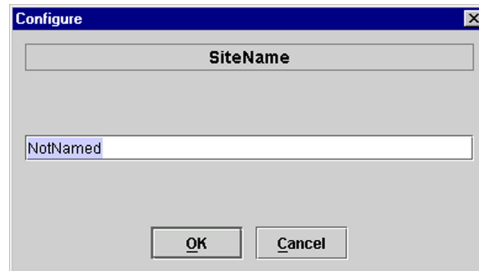

Figure 3-7. HOST Site Name Pop-Up Screen
- Click on the **HOST Site Name Edit** button (see Figure 3-6). The **Site Name** pop-up screen will open as shown in Figure 3-7. Enter a unique name for the HOST. The name may be up to 32 characters long and must not contain any spaces. The name may include numbers, punctuation, and upper or lower case letters and must always begin with a letter. Click on **OK** to close the screen and make the changes take effect.